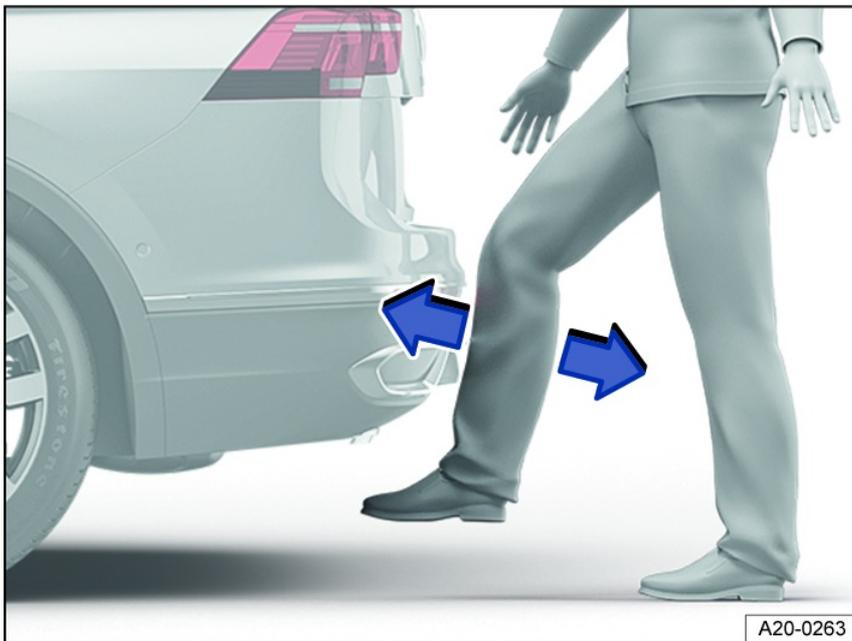

Fig. 62 General example of the sensor-controlled luggage compartment opener (Easy Open).
2. Quickly swing the lower part of your leg close to the bumper *fig. 62*.